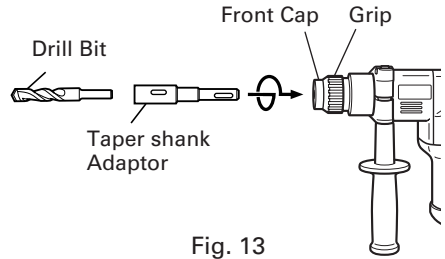
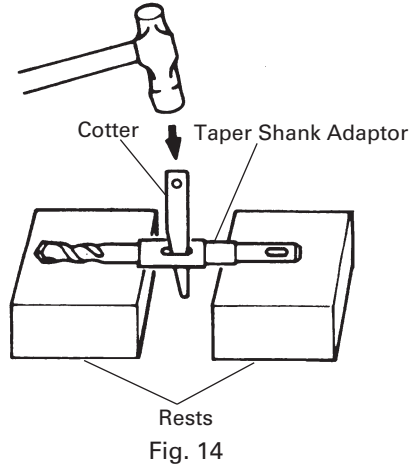

Fig. 13
Fig. 14
- (1) Mount the taper shank adaptor to the rotary hammer. (Fig. 13)
- (2) Mount the drill bit (taper shank) to the taper shank adaptor. (Fig. 13)
- (3) Turn the switch ON, and drill a hole in prescribed depth.
- (4) To remove the drill bit (taper shank), insert the cotter into the slot of the taper shank adaptor and strike the head of the cotter with a manual hammer supporting on the rests. (Fig. 14)